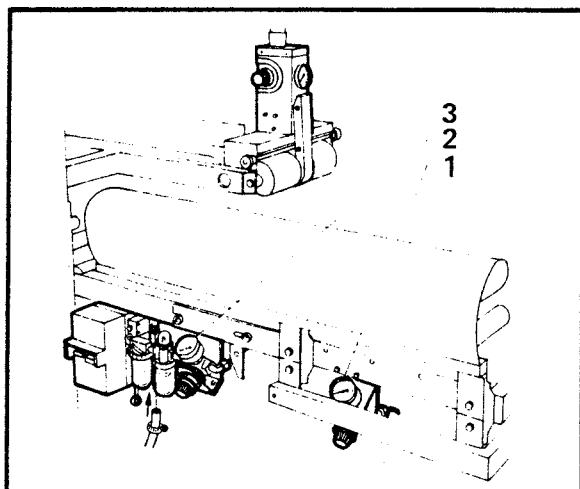

FIGURE 10 - PNEUMATIC REGULATORS
- 1) Air Pressure Regulator (Item 1, Fig. 10) - Set nominally at 50 PSIG [3.5 Kg/cm2], but adjust according to weight of the boxes being sealed to provide adequate pressure to positively center the boxes, but low enough to allow easy pushing of the boxes under the top taping head. This operator function takes place with the side guides pressing against box.
- 1) "Up" Movement Air Pressure Regulator (Item 2, Figure 10) - Set at 70 PSIG [5 Kg/cm2] to power the "up" movement of the top taping head.
- 2) "Down Movement Air Pressure Regulator (Item 3, Figure 10) - Set nominally at 25 PSIG [1.75 Kg/cm2] to control "down" movement of top taping head and the top taping head pressure exerted against the box. The regulator setting is changed as necessary for the boxes being sealed to provide adequate top taping head pressure against the box top to positively convey the boxes through the machine. If the boxes stop or hesitate while being conveyed, decrease the regulator pressure which will increase the top taping head pressure on the box for more friction between the box and drive belts. Adjust setting as necessary to get continuous movement of boxes through machine.